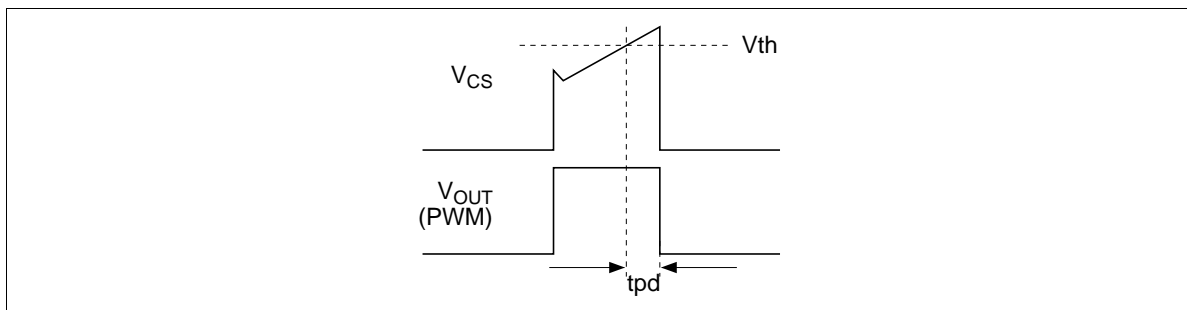

Figure 1 Definition of Current Sensing Response Time t_{pd}
3. Current sensing response time t_{pd} is defined as shown in the figure 1.